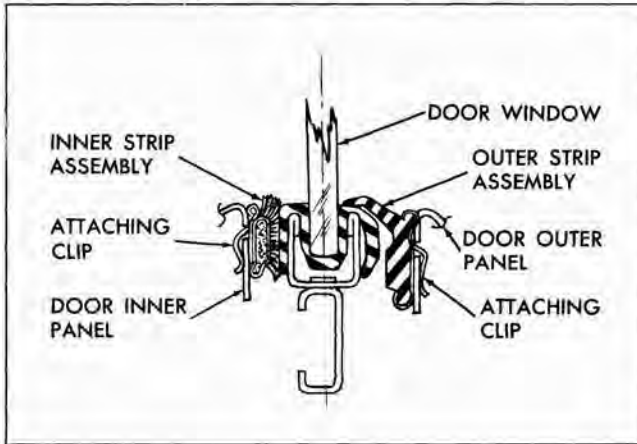

Fig. 3-13 Door Glass Channel
In either case, the molding or retainer is secured to the door outer panel by a series of attaching clips. Moldings are further retained by two (2) attaching screws, one at each end. When the door window is raised, the top section of the outer strip assembly is lifted and held in position by the door window lower sash channel and/or filler (see Fig. 3-13).